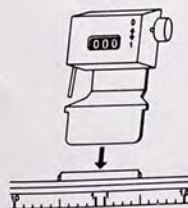

Fig. 4
4. Fit row-counter into centre slot at back of bed, fig. 4. There are three slots for placing the row-counter according to which part of the machine is being used.